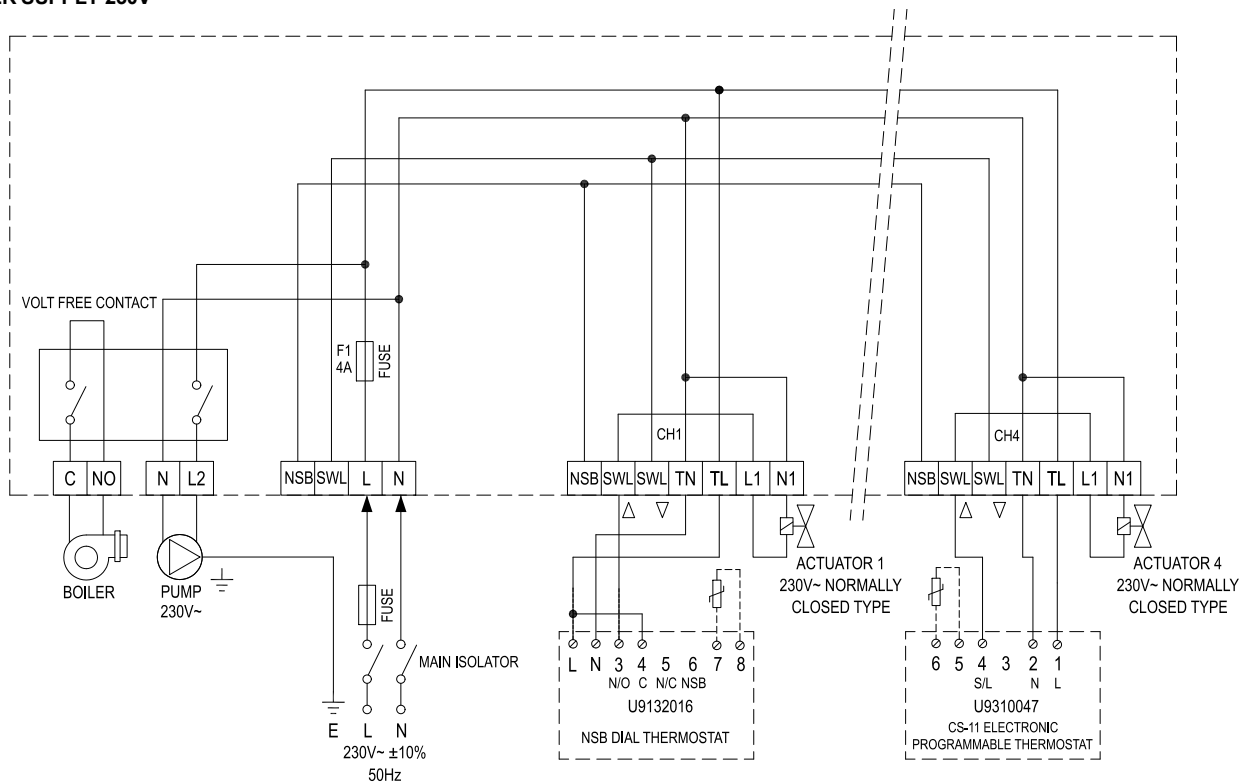

Fig. 5: Internal wiring diagram for 230V~ power supply.
**Before commencing work on the installation, the electricity supply must be disconnected. Please read the following carefully and also consult the wiring diagram, Fig.5 which show the connection of the power supply and external components to the wiring centre.**
To provide global time control of all 4 zones please refer to the TIMESWITCH section on this page for further details and Fig.5 for the electrical connections.